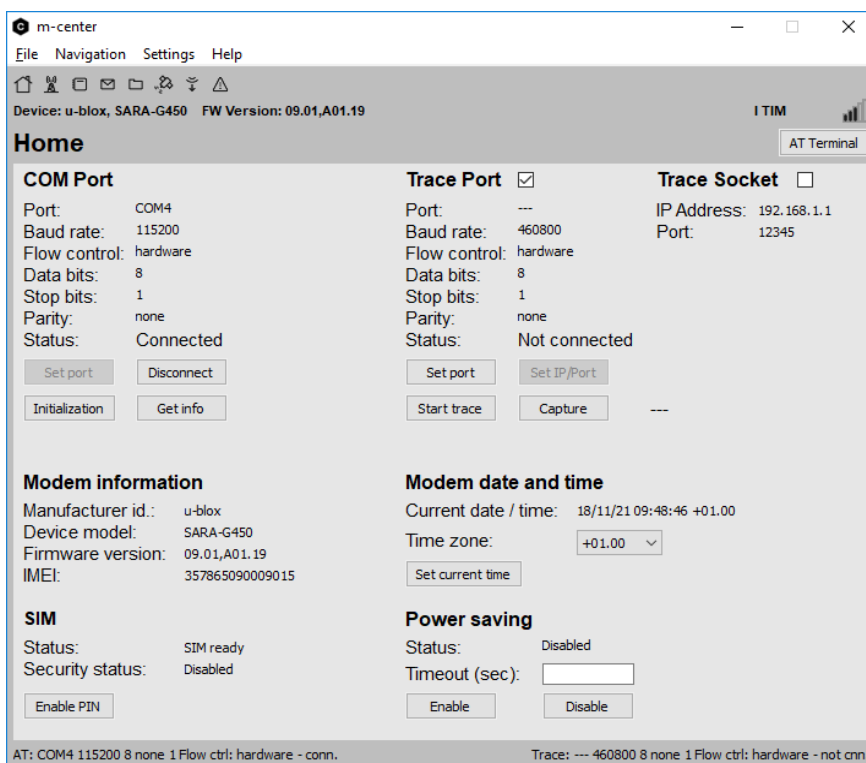

Figure 9: m-center Home page
2. Run the u-blox m-center tool: after the m-center start-up, the **Home** page appears, as shown in Figure 9.